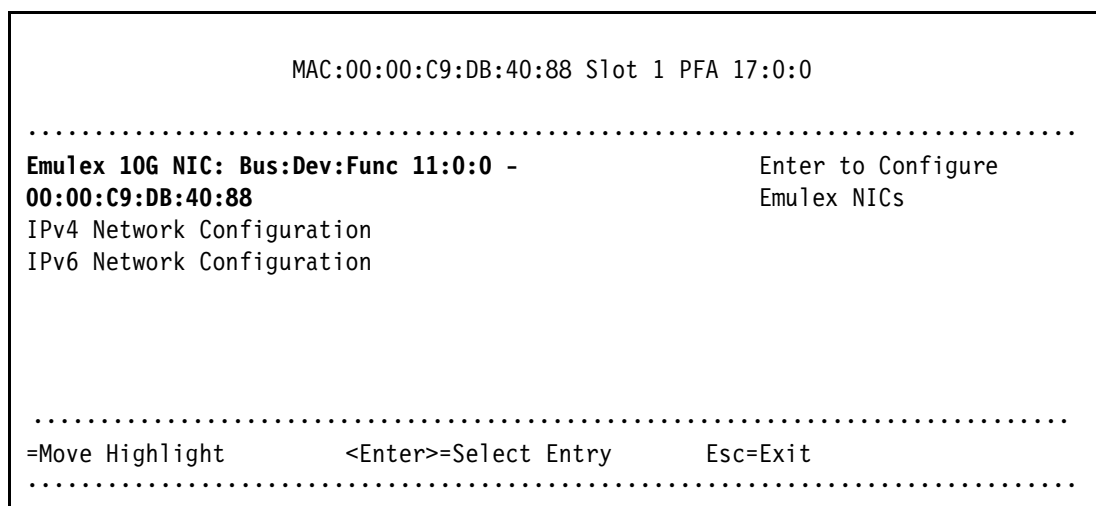

Figure 7-15 Emulex Function screen
2. Select the first entry in the Emulex function as shown in Figure 7-15.